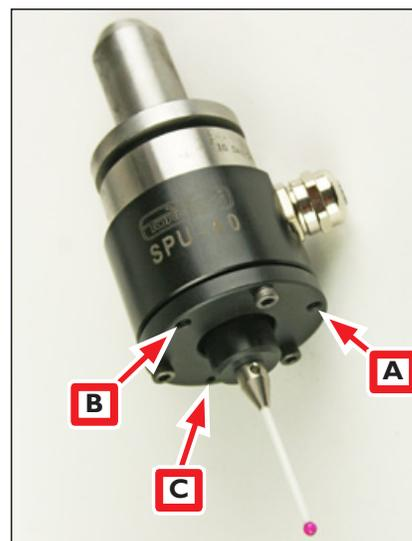

Figure 8.9
Tormach's Passive Probe (see **Figure 8.9**) is used to:
**NOTE:** The three adjustment set screws are 120° apart (see **Figure 8.9**).